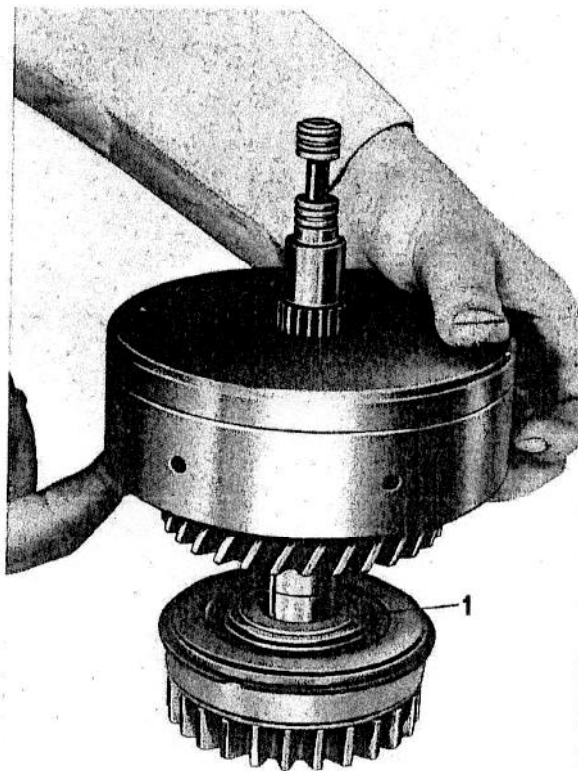

FIG. 23
8. (Fig. 23) Place the output shaft upright on the bench and fit the thrust washer (1) onto the shoulder above the oil slinger.